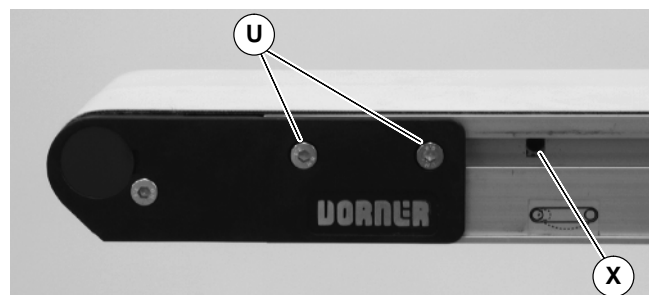

Figure 8
5. With a 5 mm hex-key wrench, rotate pinion gear (X of Figure 8) to tension the conveyor belt. Tighten fastening screws (U) on both sides of conveyor to 9 Nm. For proper tensioning, refer to “Conveyor Belt Tensioning” on page 11.